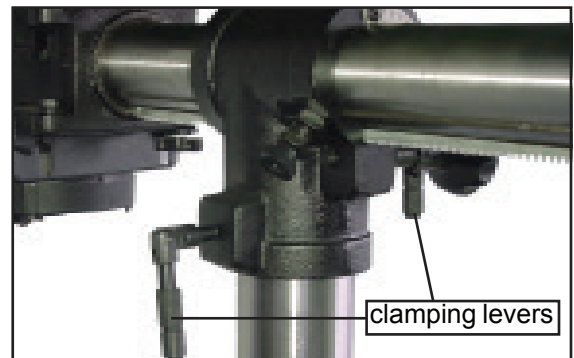

Figure 7
3. Attach the 2 clamping levers (part# 30B) on the drill press column guide (part# 18B). (Fig. 7)